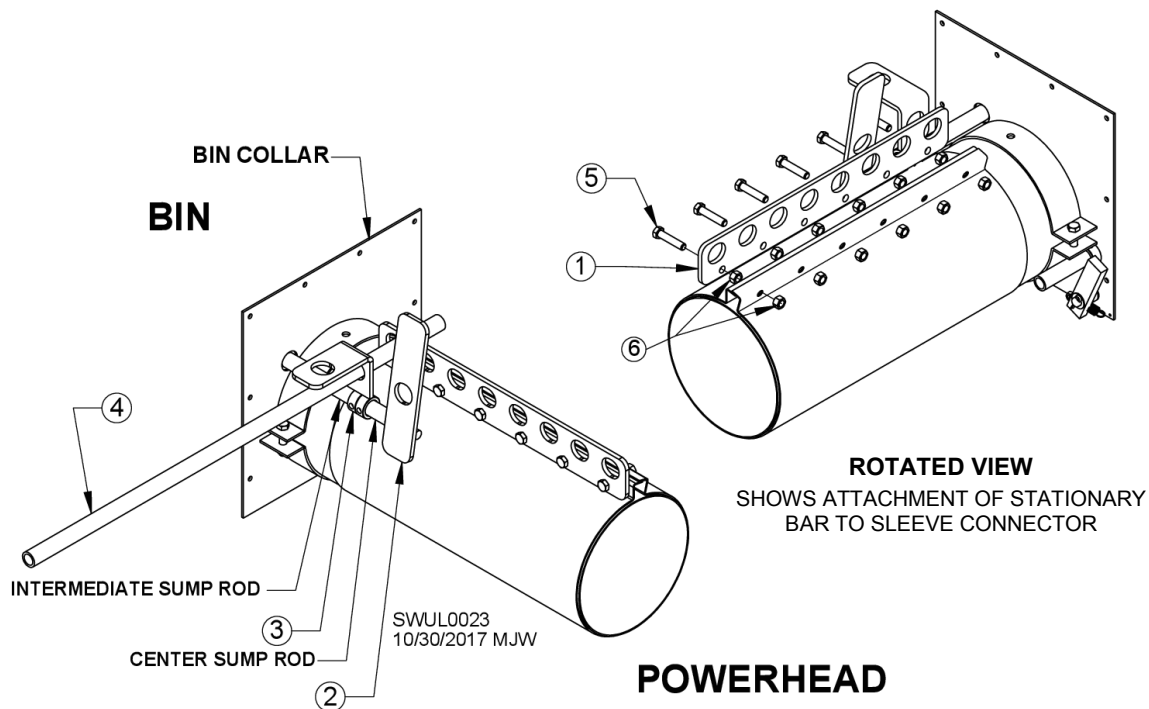

Fig. 29 & Table 13
1. With sumps fully closed, attach center sump opener "L" handle (2) to center sump pull rod using setscrews in shaft collars, and attach intermediate sump opener "L" handle (3) to intermediate sump pull rod using setscrews in shaft collars.
2. Attach stationary bar (1) to connector sleeve using 3/8" bolts (5) and two rows of 3/8" nuts (6) as shown in Fig. 29.
3. Slide connector sleeve as needed to line up innermost hole in stationary bar with hole in intermediate sump opener "L" handle (3). Tighten hardware.